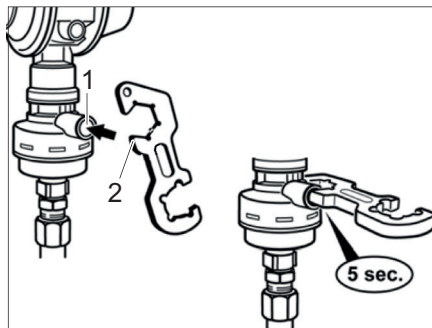

Fig. 135 Crash sensor
- Using the screwing aid (Fig. 135,2) or a similar suitable object, press the release button (Fig. 135,1) and hold it for 5 seconds.